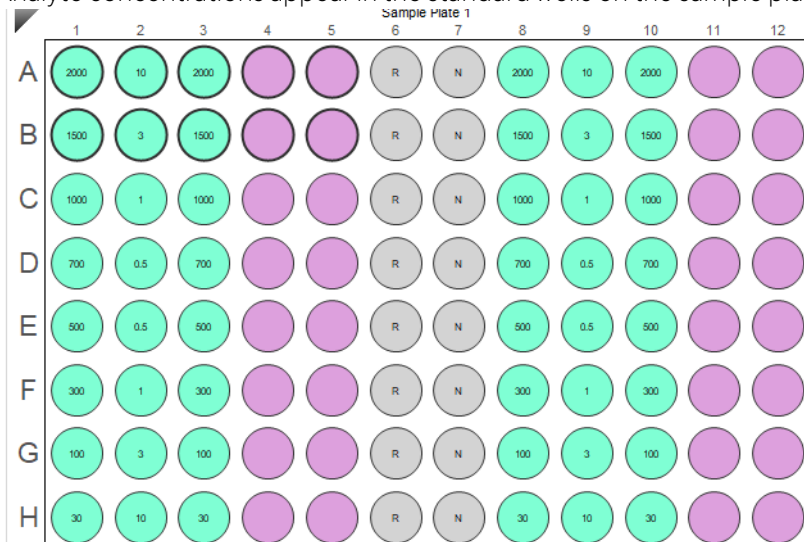

Figure 9-9: Reagent Plate Showing Concentrations for Standard Wells
- Analyte concentrations appear in the standard wells on the sample plate (Figure 9-9).